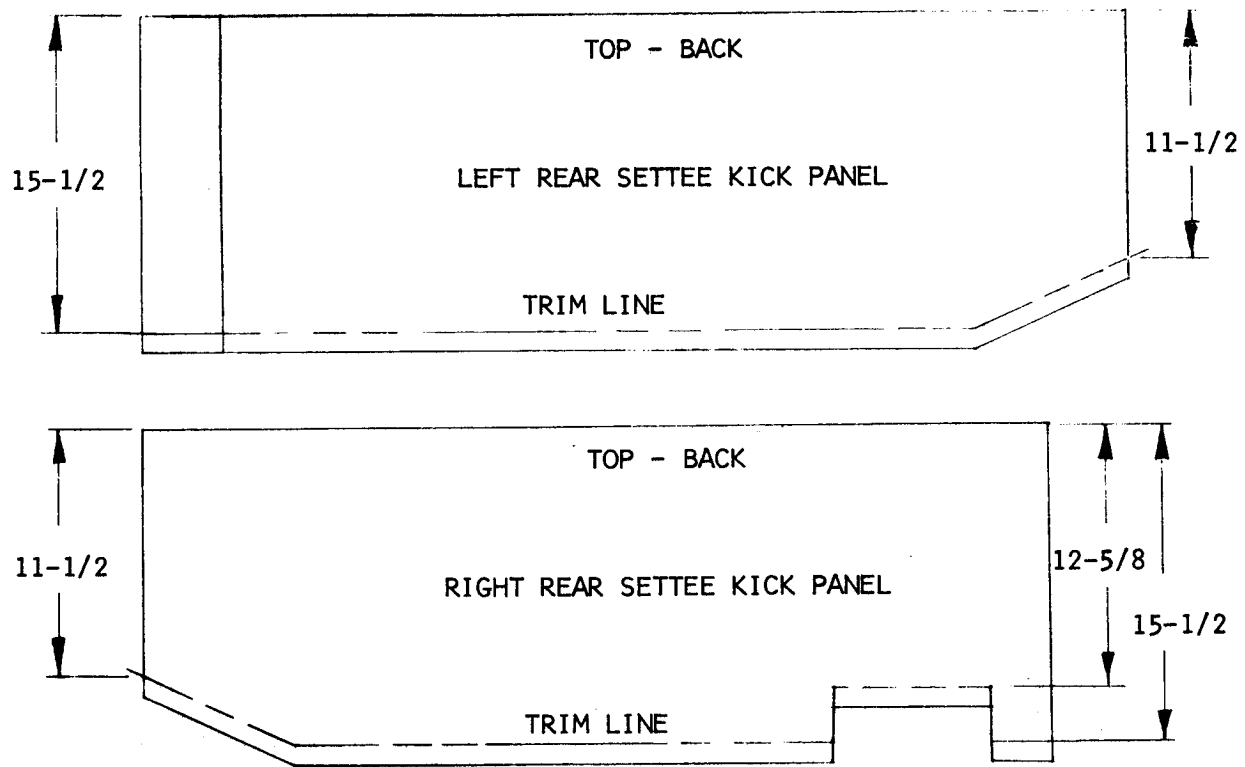

FIGURE 1
1. Lay out trim line on back side of both kick panels as shown in Figure 1.